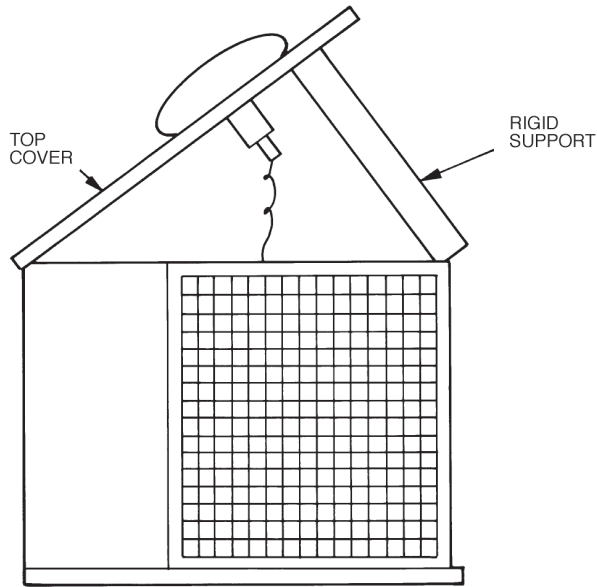

Fig. 33 - Pivot and Support Top Cover
2. Remove screws holding rear corner post and top cover in place. Pivot top cover up 12 to 18 inches (305 to 457 mm) and support with a rigid support. See Fig. 33.